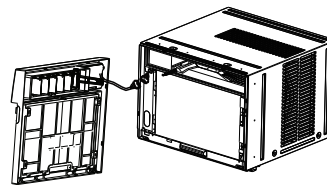

Fig. 4
6. Disconnect the connector plug of the display panel from the unit and place front panel to one side. (See Fig. 4.)